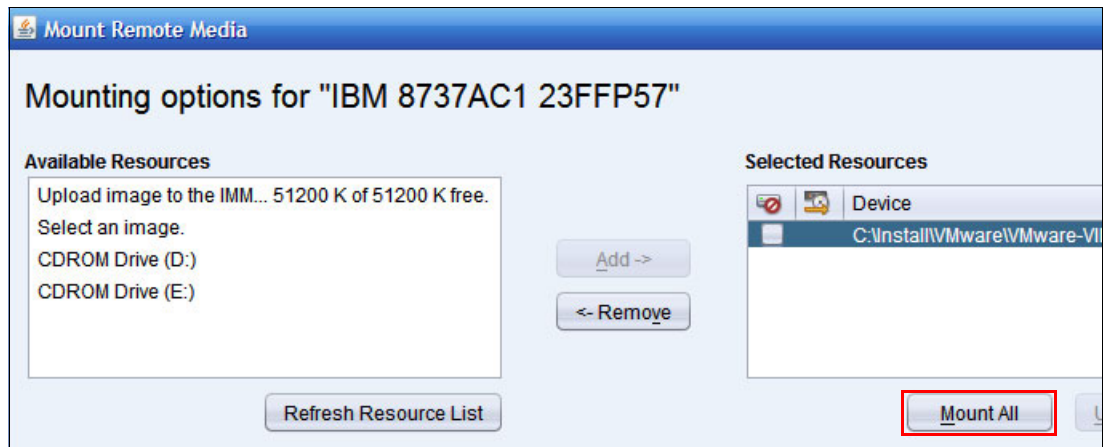

Figure 7-63 Mount Remote Media window that shows Selected Resources
8. The image file path is displayed in the list of devices available for mounting, as shown in Figure 7-63. Click **Mount All**.